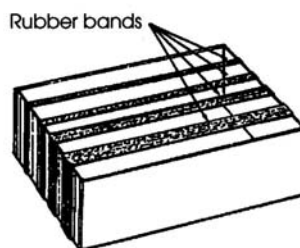

Figure 38-2.
1. Stretch the 3 rubber bands around the box as shown in Figure 38-2.